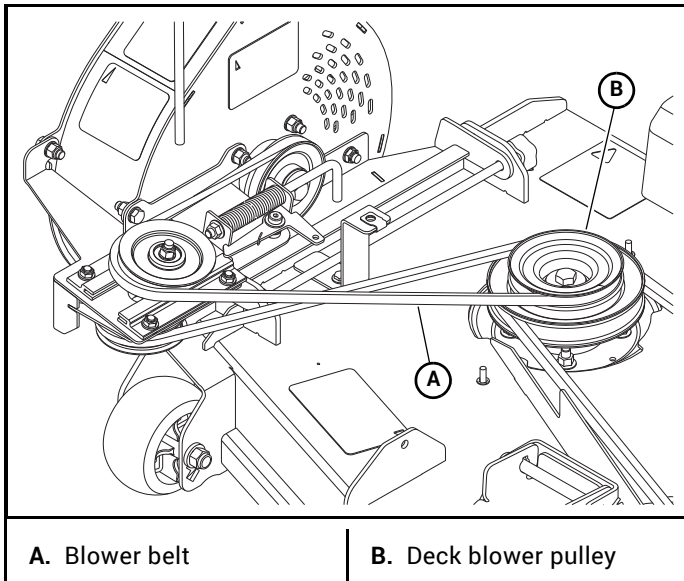

Figure 4-4
3. Remove the blower belt from around the deck blower pulley as shown. Figure 4-4